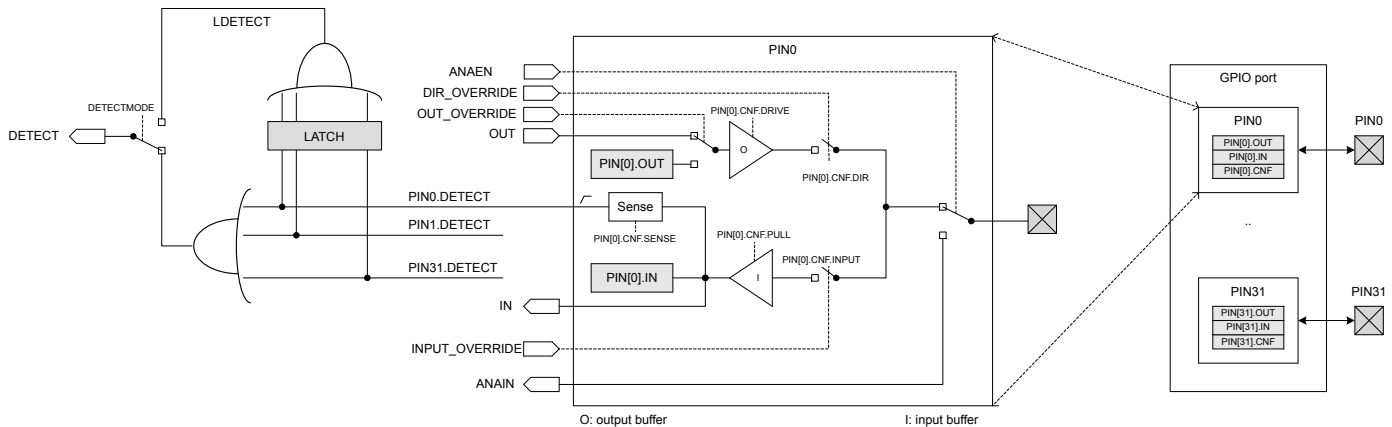
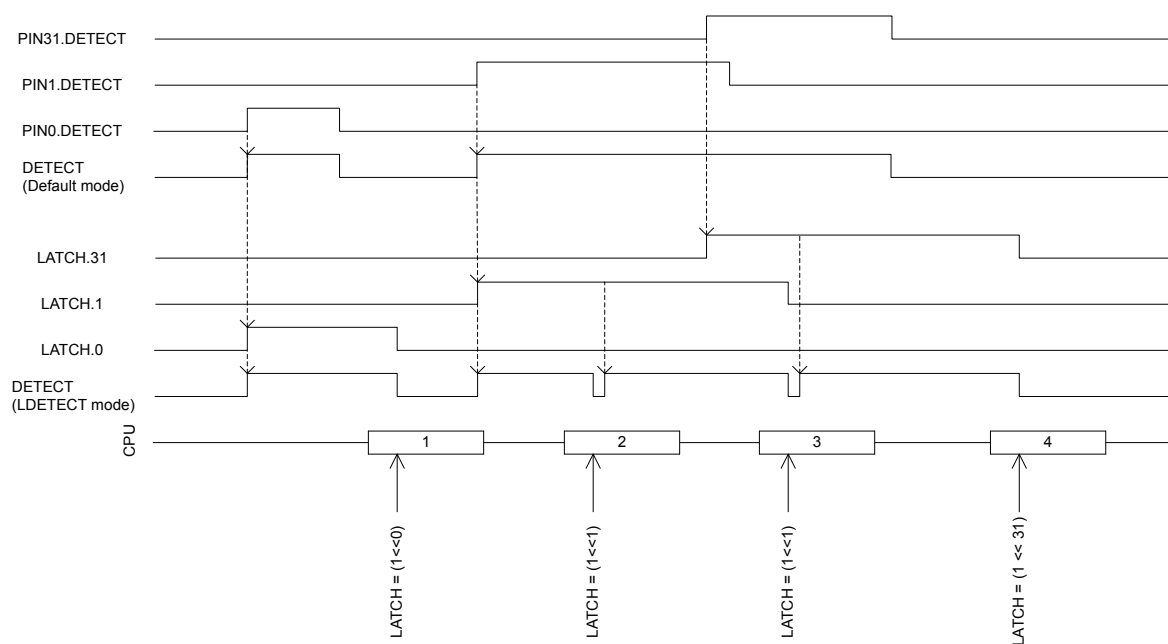

Figure 53: GPIO port and the GPIO pin details
Figure 55: DETECT signal behavior
**Figure 53: GPIO port and the GPIO pin details** on page 211 illustrates the GPIO port containing 32 individual pins, where `PIN0` is illustrated in more detail as a reference. All signals on the left side in the illustration are used by other peripherals in the system and therefore not directly available to the CPU.
The input buffer of a GPIO pin can be disconnected from the pin to enable power savings when the pin is not used as an input, see Figure 53: GPIO port and the GPIO pin details on page 211. Inputs must be
Other peripherals in the system can connect to GPIO pins and override their output value and configuration, or read their analog or digital input value. See Figure 53: GPIO port and the GPIO pin details on page 211.
Selected pins also support analog input signals, see `ANAIN` in Figure 53: GPIO port and the GPIO pin details on page 211. The assignment of the analog pins can be found in Pin assignments on page 765.
If one or more bits in the `LATCH` register are '1' after the CPU has performed a clear operation on the `LATCH` registers, a rising edge will be generated on the `LDETECT` signal. This is illustrated in Figure 55: DETECT signal behavior on page 214.
The `LDETECT` signal is by default not connected to the GPIO port's `DETECT` signal, but via the `DETECTMODE` register it is possible to change from default behavior to `DETECT` signal being derived directly from the `LDETECT` signal instead. See Figure 53: GPIO port and the GPIO pin details on page 211. Figure 55: DETECT signal behavior on page 214 illustrates the `DETECT` signal behavior for these two alternatives.